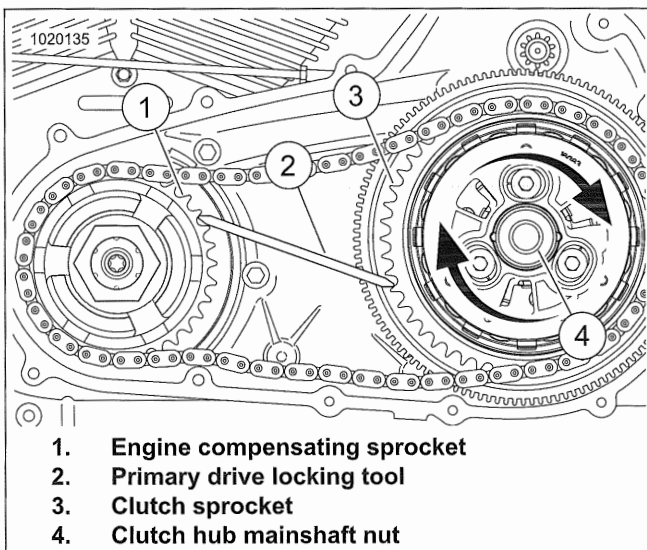

Figure 5-13. Removing Clutch Hub Mainshaft Nut
4. See Figure 5-13. Remove mainshaft nut.
- c. Figure 5-13. Rotate clutch hub mainshaft nut (4) clockwise to remove.